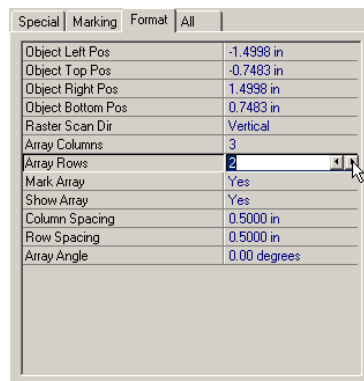

Figure 10-5 Setting number of Array Rows
- 5 In the *Property List*, click Array Rows (Figure 10-5), and then click the arrow to increase the number of rows.